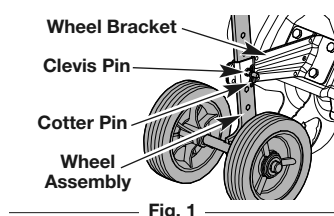

Fig. 1
1. Insert the wheel assembly into the wheel bracket. The "J" shape of the wheel assembly should point away from the unit (Fig. 1).
2. Align the hole in the wheel bracket with the desired hole in the wheel assembly (Fig. 1).
3. Insert the clevis pin through the aligned holes (Fig. 1).
4. Insert the cotter pin into the clevis pin (Fig. 1).
1. Remove the cotter pin from the clevis pin (Fig. 1).
2. Remove the clevis pin from the wheel bracket and wheel assembly (Fig. 1).
3. Align the hole in the wheel bracket with the desired hole in the wheel assembly (Fig. 1).
4. Insert the clevis pin through the aligned holes (Fig. 1).
5. Insert the cotter pin into the clevis pin (Fig. 1).